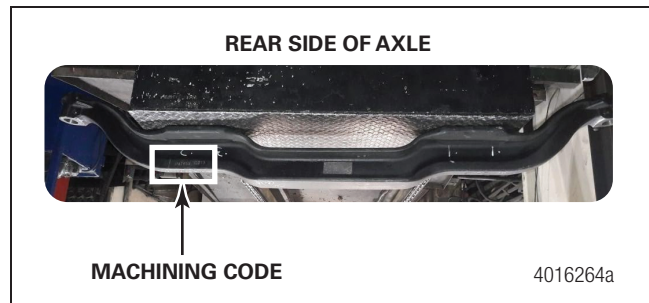
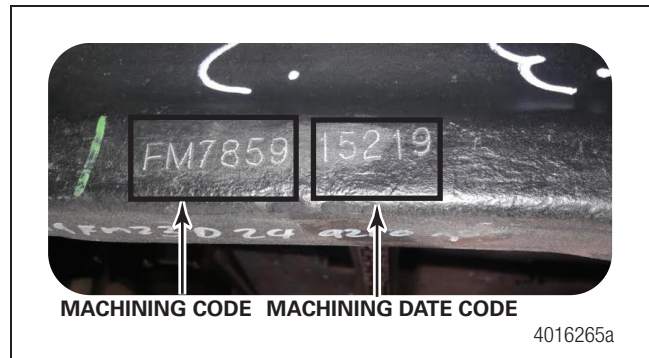

Figure 4
Figure 5
3. On the rear of the axle, find and record the machining code embossed on the left side of the axle. Figure 4. The last five digits of the code is the machining date code. Figure 5.